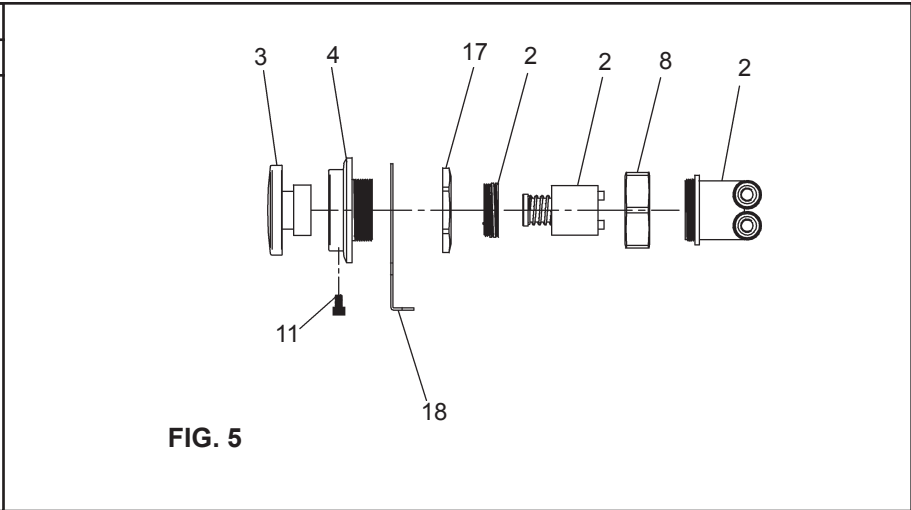

FIG. 5
9. **Check stream height from bubbler.** Stream height is factory set at 35 PSI. If supply pressure varies greatly from this, adjust the screw on regulator item 10 by using a small screwdriver through the small hole in the push button item 3 (See Fig.5). Clockwise adjustment will raise stream height and counter-clockwise adjustment will lower stream height. For best adjustment stream should hit basin approximately 6-1/2" (165mm) from bubbler.